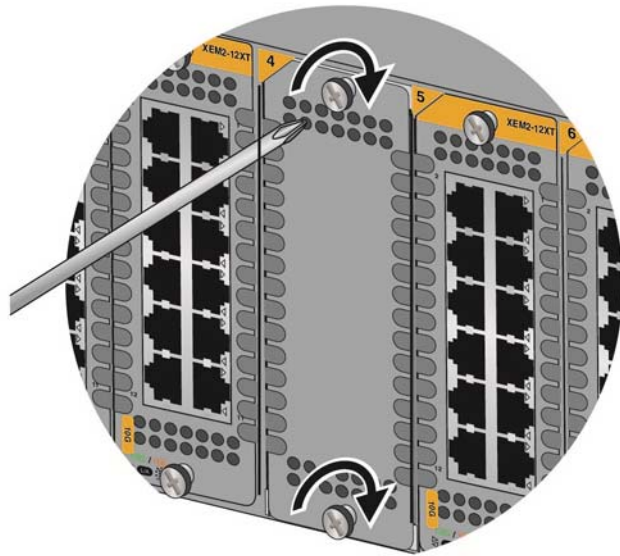

Figure 42. Tightening the Captive Screws on a Blank Slot Cover
2. Tighten the two captive screws with a #2 Phillips-head screwdriver to secure the cover to the chassis. Refer to Figure 42 on page 74.